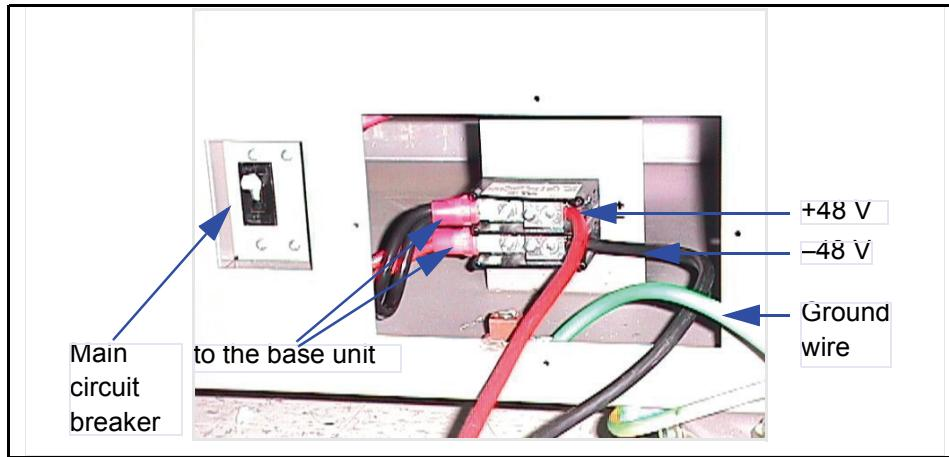

Figure 2 Main circuit breaker, HiPath 4000, rear view
2. At the back of cabinet 1 (under the CSPCI shelf): Turn on the main circuit breaker (see Figure 2).
2. At the back of cabinet 2 (under the CSPCI shelf): Turn on the main circuit breaker (see Figure 2).